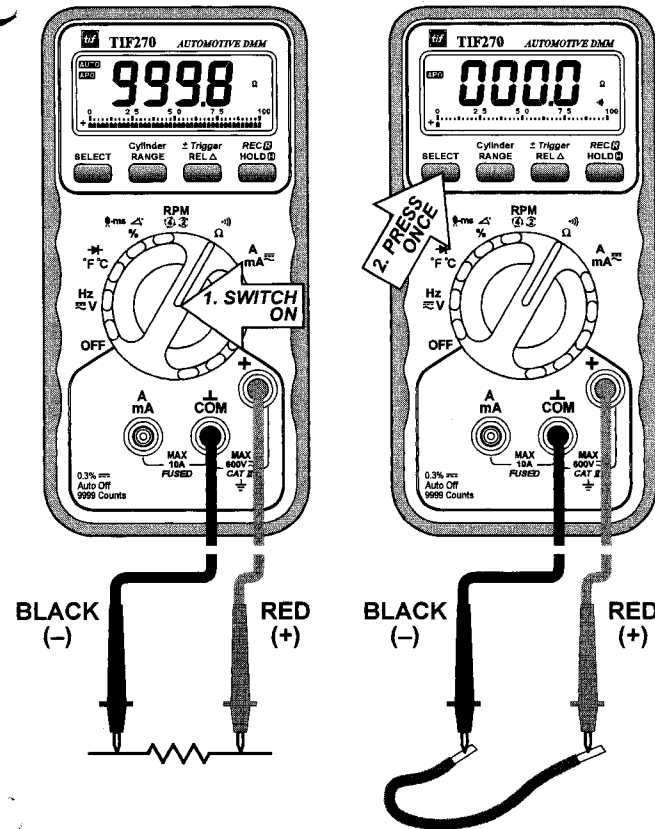

FIG 9. Ω RESISTANCE, \rightarrow CONTINUITY FUNCTIONS
- 3) Connect the test leads as shown in **FIG 9** and observe the digital display